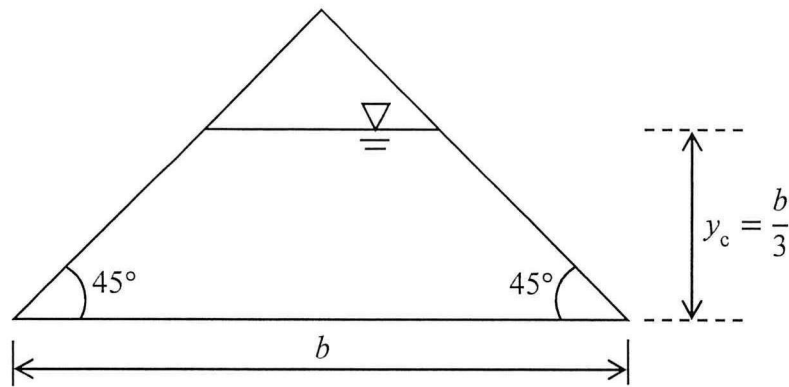

FIGURE Q3(b)
- (b) Depth of critical flow in a channel shown in **Figure Q3(b)** is $y_c = b/3$. Determine b as a function of flow discharge Q . (5 marks)